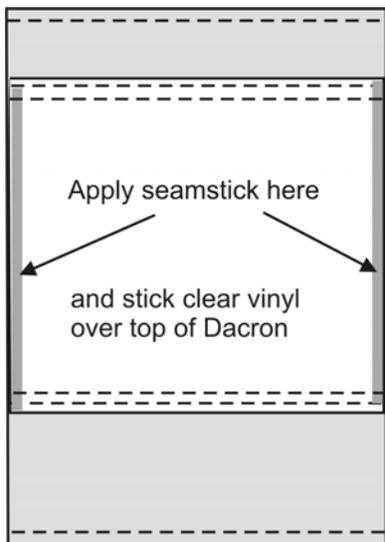

Fig 7-84 Apply seamstick to the very edges, and stick clear vinyl over top of the Dacron
Step 4 – Apply ¼” seamstick to the very edges of the Dacron, and stick down the vinyl *wrong* side down on top of the Dacron (Fig 7-84).